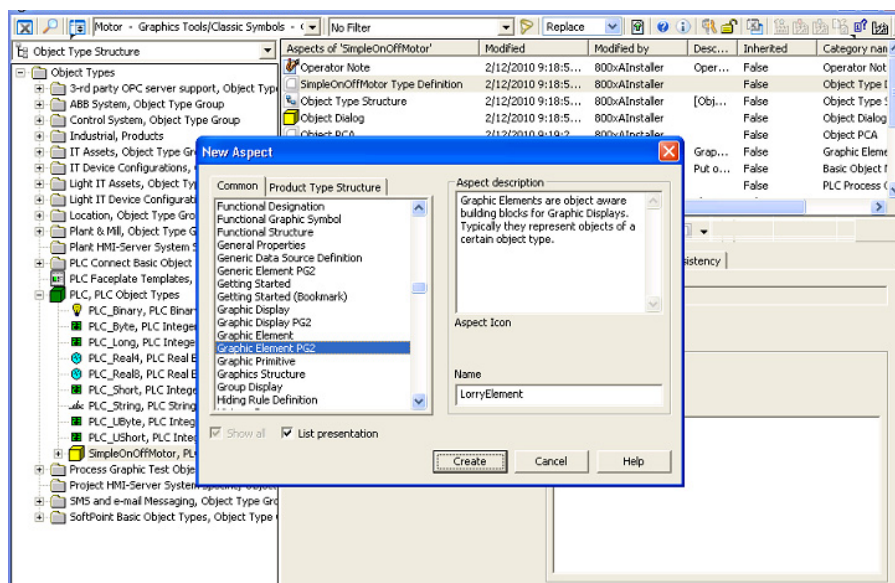

Figure 1. Create Graphic Element Aspect
1. Select an object type in the **Object Type Structure**. See Figure 1.